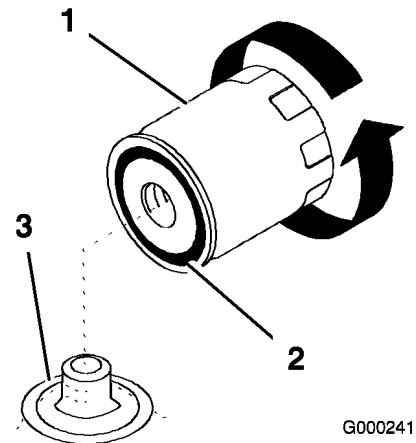

Figure 38
2. Remove the old filter and wipe the filter adapter (Figure 38) gasket surface.
3. Apply a thin coat of new oil to the rubber gasket on the replacement filter (Figure 38).
4. Install the replacement oil filter to the filter adapter. Turn the oil filter clockwise until the rubber gasket contacts the filter adapter, then tighten the filter an additional 1/2 turn (Figure 38).